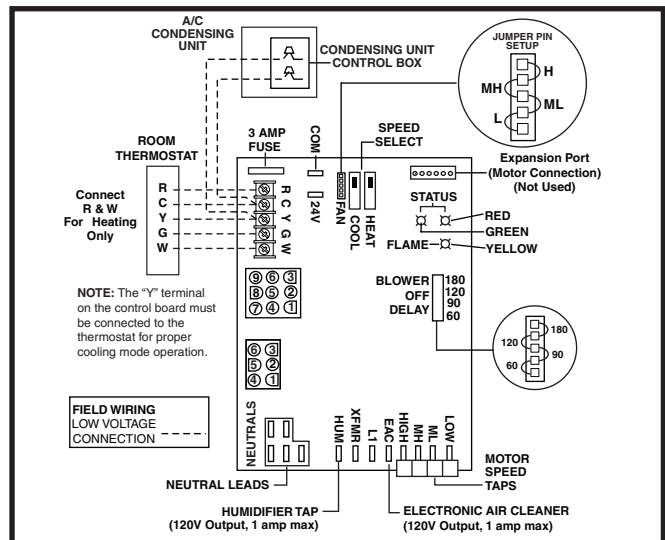

Figure 13. Low Voltage Connections
- The thermostat must be installed according to the instructions supplied by the thermostat manufacturer. Low voltage connections (24 VAC) from the thermostat are wired to the terminal strip on the integrated control in the furnace. Figure 13 contains the proper connections for heating only (two-wire) and heating/cooling (four-wire) applications.
- The six pin terminal marked "Expansion Port" (Figure 13, page 14) is not used in the single stage furnace as shipped from the factory. It is used for the furnace control board to communicate to a fixed speed or variable speed high efficiency motor that may be optionally installed. Please contact your distributor for the proper upgrade motor kit.
- Verify the jumper setting (for fan speed) on the control board. See Figure 13, (page 14).
- When the thermostat energizes the **G** terminal for continuous fan (without calling for heat or cooling), the indoor fan is energized on the selected FAN speed. See Figure 13, \(page 14\). The control defaults to MEDIUM HIGH if the movable jumper is not attached.